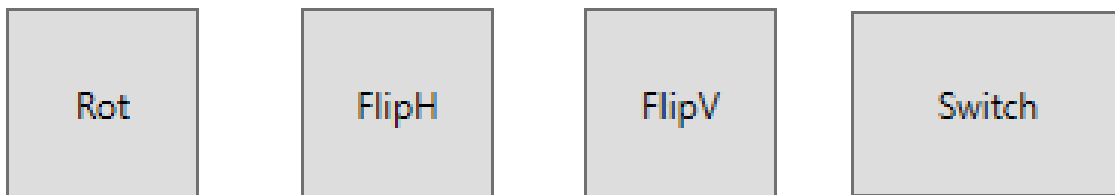

Figure 7-8 Movement buttons.
Film processing, or segmentation and alignment, is done automatically in the background. The Anterior (A) and Superior/Left (S/L) edges must align. If they do not, there are various movement options for both the A/L and A/S Films that will enable the user to align them (see Figure 7-8).